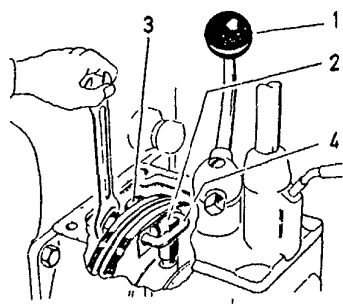
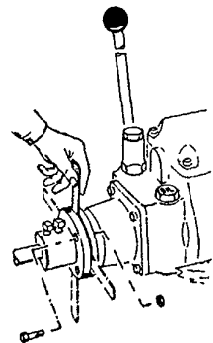

Fig 8
Fig. 9
2. If the clutch is slipping, tighten clutch clamp nuts (3)  $\frac{1}{6}$  turn, through cover (fig. 8). If the reverse gearbox is slipping, check alignment of engine (fig. 9). See also page 43.